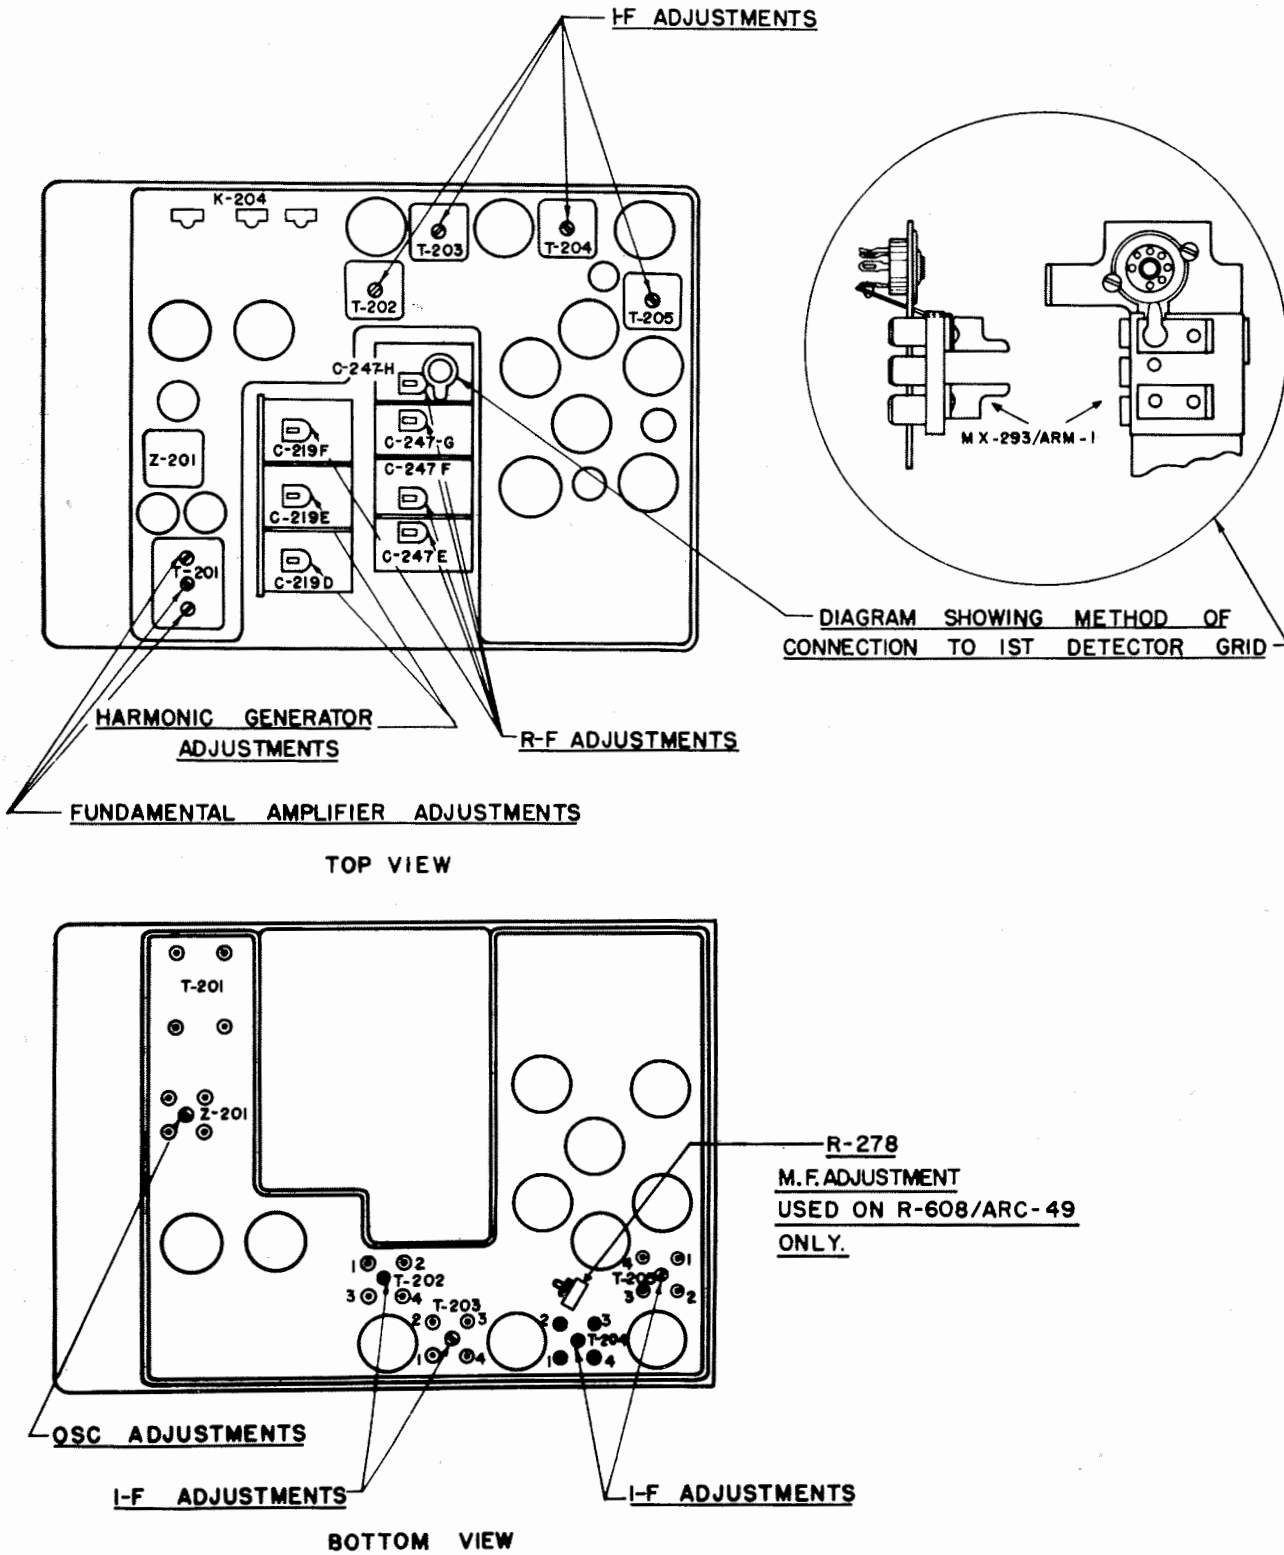

Figure 5-8. Radio Receiver—Alignment Diagram
(1) Connect the test set to a 28 volt DC supply, making sure the "OFF" button on the control box is depressed or the "ON-OFF" switch on the control panel is "OFF."
(2) Remove the top and bottom covers of the receiver, then connect plug PL-153-A of the test set into the receiver receptacle marked "PL-153-A."
(3) Connect the output meter into the "TEL" jack on the control box or to the "LO" terminal on the output transformer and to ground.
(4) Clamp Adapter MX-293/ARM-1 onto the bracket of the four-gang tuning capacitor so that the projection on the adapter extends through the U-shaped hole adjacent to the first detector JAN-9001 (V-209), and contacts the grid pin on the tube. (See fig. 5-8.)
(5) Connect the IF test cord to the Signal Generator I-96-A socket marked "HIGH" and connect the output terminals to Adapter MX-293/ARM-1, being sure the polarity is correct.
(6) Turn on and adjust the signal generator to a frequency of 12 megacycles and select any channel. Allow 5 minutes for the receiver to warm up.
(7) Adjust the signal generator output to the smallest value that will give a reading on the output meter. If no output is obtainable, turn all eight IF transformer adjusting screws to the maximum counterclockwise position. Then roughly align each stage, feeding the input into the grids of the third, second, and first IF tubes successively. (See fig. 5-8.)
(8) With the 12-megacycle input signal fed to the first detector grid JAN-9001 (V-209), adjust the screw on the top of the fourth IF transformer T-205 for the *maximum* reading on the output meter. (See fig. 5-8.)
(9) Adjust the screw at the bottom of IF transformer T-205 for the *maximum* reading on the output meter. Continue to reduce the input from the signal generator to the smallest value that will give a workable reading on the output meter. Because of the AVC action, alignment cannot be performed with high input.
(10) Connect Shunting Unit MX-294/ARM-1 across terminals one and two (toward the front of the chassis) on the third IF transformer T-204. Adjust the screw on top of the transformer for *maximum* reading on the output meter.
(11) Remove the shunting unit from terminals "1" and "2," then connect it across terminals three and four (toward the rear of the chassis) on the third IF transformer T-204. Adjust the screw on the bottom of the transformer for *maximum* reading on the output meter.
(12) Repeat the procedure outlined in (10) and (11) above for the second IF transformer T-203.
(13) Remove the shunting unit from transformer T-203 and connect it across terminals one and two (toward the inside of the chassis) on the first IF transformer T-202. Adjust the screw on top of the transformer for *maximum* reading on the output meter.
(14) Remove the shunting unit from terminals one and two, then connect it across terminals three and four (toward the outside of the chassis) on the first IF transformer T-202. Adjust the screw on the bottom of the transformer for *maximum* reading on the output meter.
(15) Remove the shunting unit and adapter from the IF transformer and variable capacitor, respectively.
(1) Connect Test Unit TS-178/ARM-1 into the receptacle marked "PL-152" located inside the receiver. Remove the adapter from the variable capacitor bracket.
(2) Turn the adjusting screw on the bottom of oscillator coil Z-201 as far counterclockwise as possible. (See fig. 5-8.)
(3) Insert the 8727.00-kilocycle crystal unit in channel "A" for the AN/ARC-3 or AN/ARC-36 Radio Receiver and in channel "D-12" for the AN/ARC-49 Radio
(1) Turn all three adjusting screws on top of the fundamental amplifier transformer T-201 to the maximum counterclockwise position. (See fig. 5-8.)
(2) For the AN/ARC-3 or AN/ARC-36 Radio Receiver insert the 8000.00, 8100.00, 8727.00, and 8453.823 kilocycle crystal units in channels "A," "B," "C" and "D" respectively, and select channel "B." (If using a control panel it is necessary to set the "ON-OFF" switch to the "ON" position.)
(1) Select another channel and immediately reselect the channel specified in the above paragraph. Screw Cap Mx-506/ARM-1 over the motor control button S-203 so that the button is locked down. The motor will stop just below the 156-megacycle mark on the frequency dial.
(2) Connect an output meter to the headset jack.
(3) Connect the Signal Generator I-96-A RF output to the antenna receptacle marked "PL-259" on the receiver. To make this connection use Plug PL-272 as an adapter. Tune the signal generator to 156 megacycles for the maximum reading on the output meter.
(4) Adjust trimmer capacitors C-247E, C-247F, C-247G, C-247H, and C-219F (see fig. 5-8) for the maximum reading on the output meter. Repeat adjustments until no further improvement can be obtained.
(5) For the AN/ARC-3 or AN/ARC-36 Radio Receiver set the channel "A" thumbwheel to 100 mega-